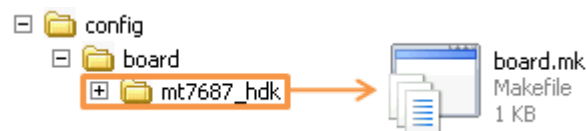

Figure 16. The Path of board.mk
- 3) `board.mk` is located at `<sdk_root>/config/board/<board>/board.mk` (see Figure 16) and defines the extra include paths to the header files related to the development board.